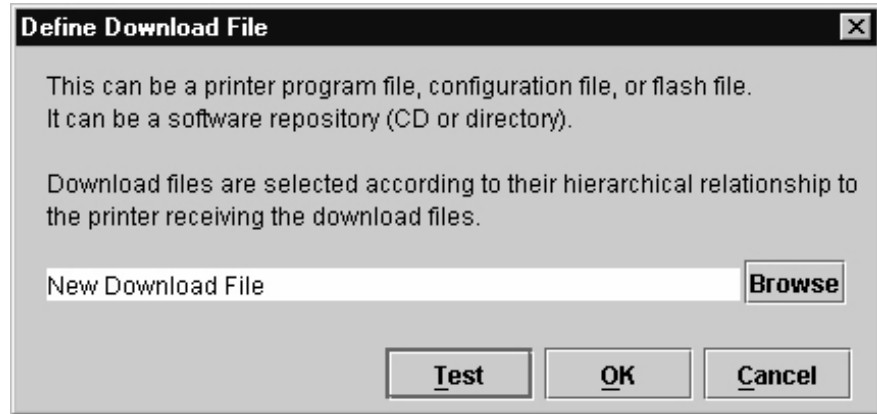

Figure 67. Define Download File
1. Double-click **D** **New Download File**. The Define Download File dialog box opens. See Figure 67.